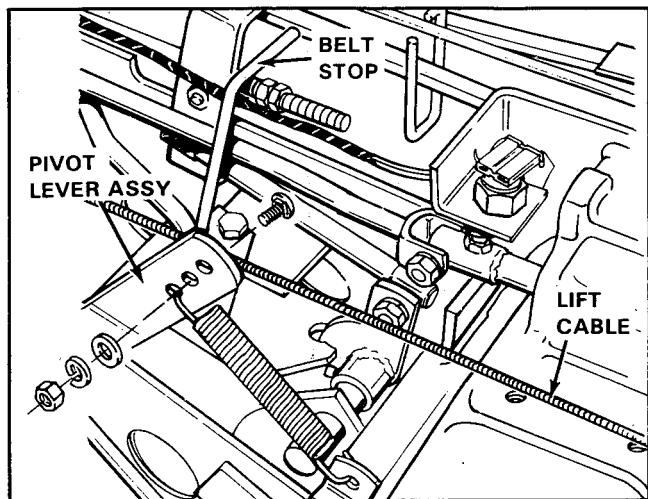

Figure 6
11. On six-speed and semi-automatic units, install the belt stop on the pivot lever assembly as shown in figure 6. With the clutch-brake pedal disengaged, the belt stop should be pointing straight up. Install the belt stop as shown in figure 6 with the $1/4$ - 20 x $3/4$ " carriage bolt, washer, lockwasher, and hex nut provided.